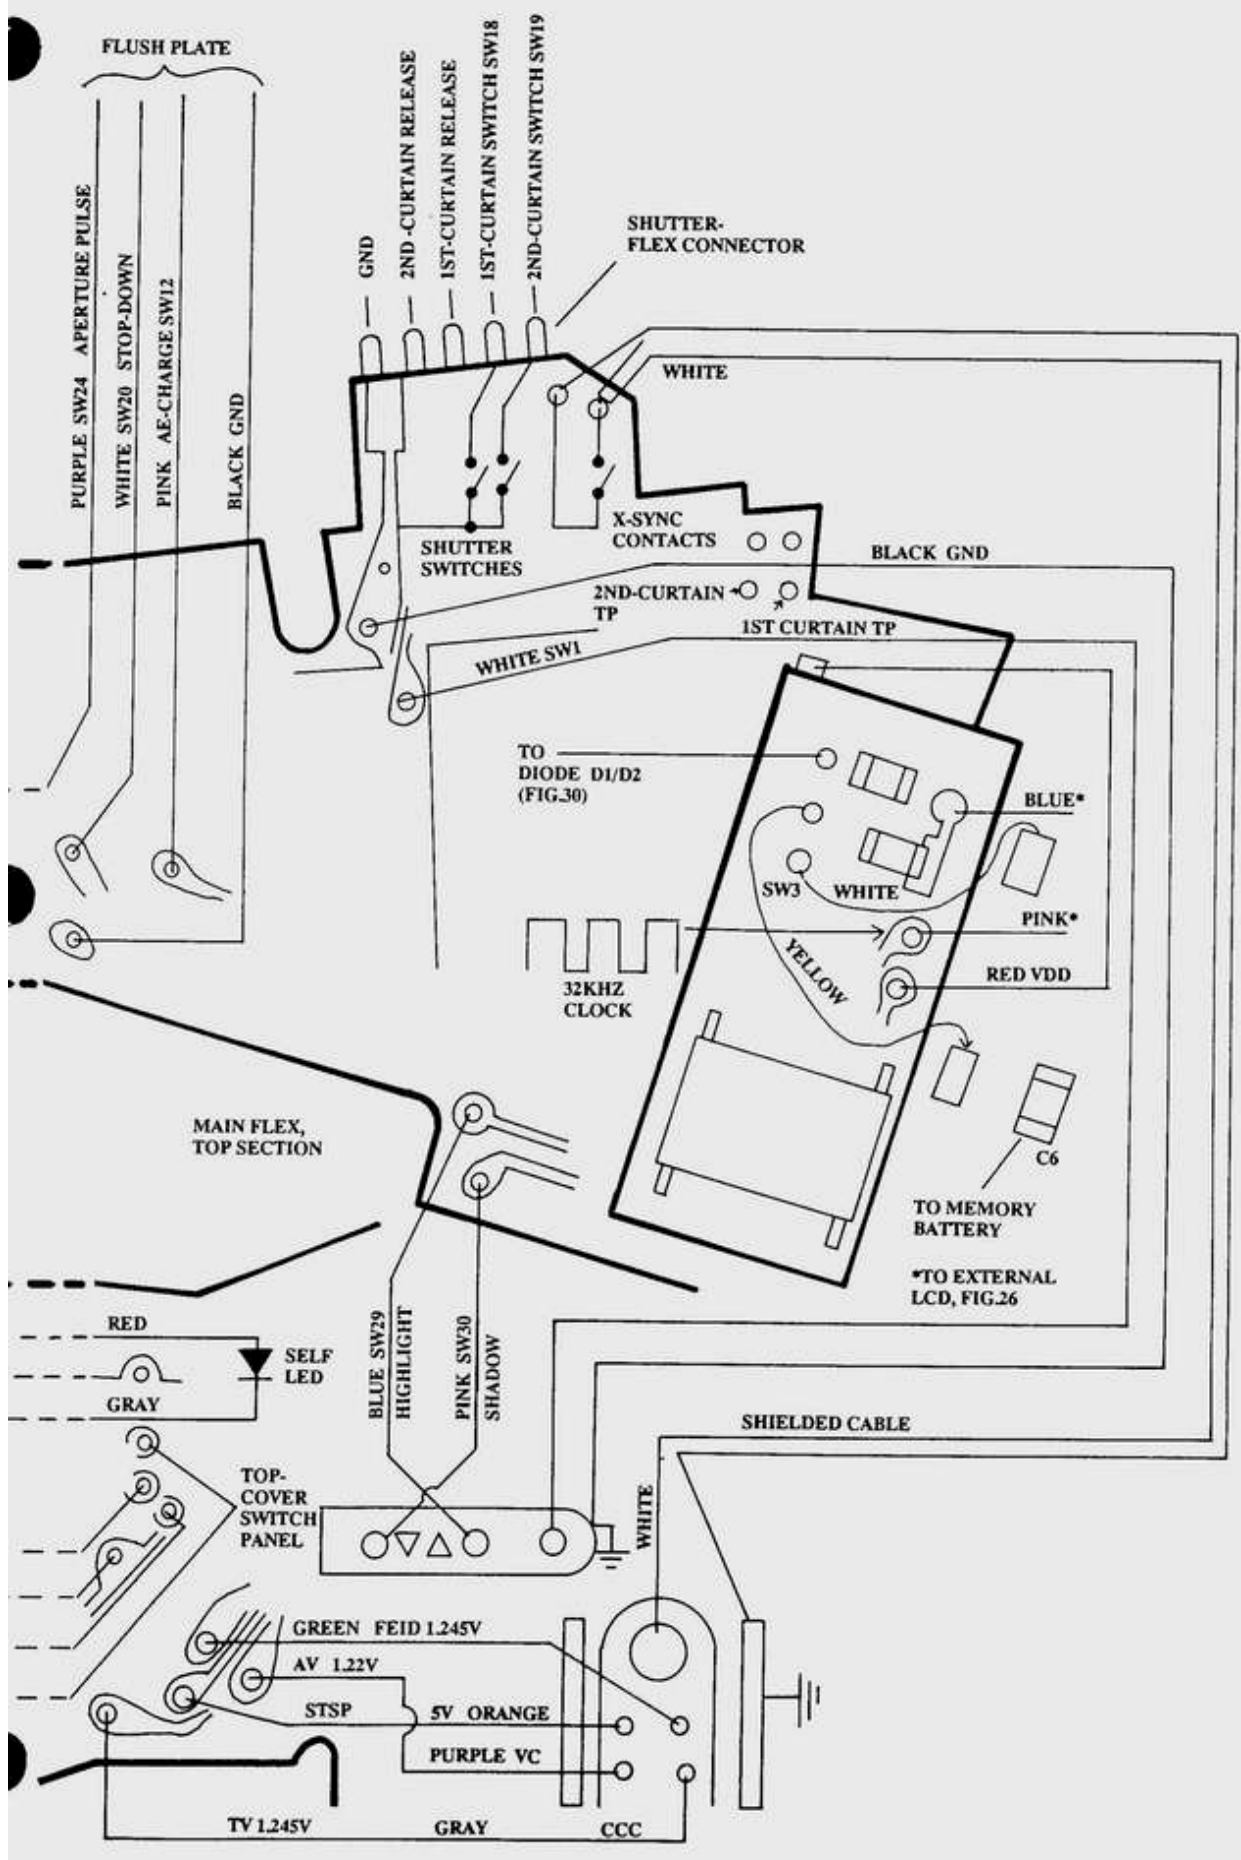

Fig. 4 (or remove screw holding solder lug)
down slide (lower front, rewind side) is all the way to your right (looking at the front of the camera). The stop-down slide must couple to the fork in the stop-down lever, Fig. 4.
2. unsolder wires, front release side of main flex, Fig. 4
3. unsolder red and gray wires from self LED, Fig. 4.
4. remove pressure bar, front flex connector (2 screws), Fig. 4
4. remove 3 screws holding release-switch block, Fig. 4